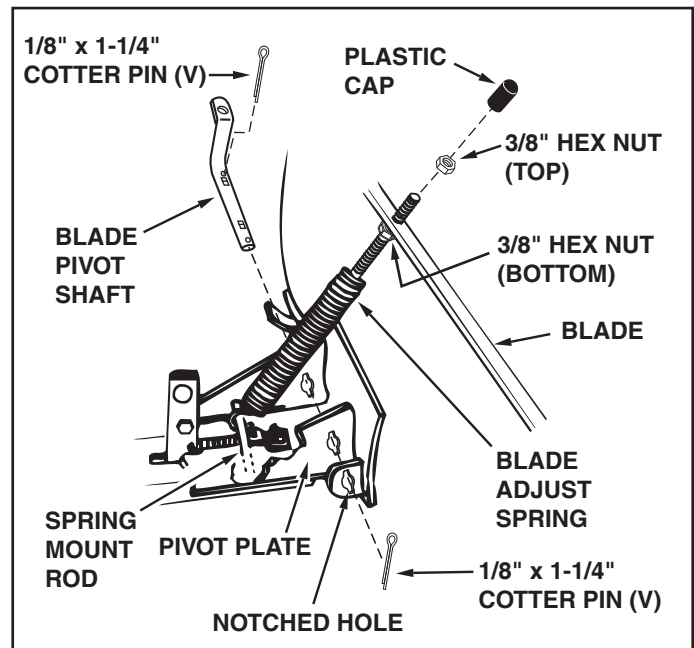

FIGURE 21 (Right Hand Side View)
STEP 7: (SEE FIGURE 21)
- To attach the blade to the channel assembly, align the notched holes in the pivot plate with the notched holes in the blade. Insert a 1/8" x 1-1/4" cotter pin (V) down through the hole at the bend in the blade pivot shaft. Spread the ends of the pin. From the left side insert the blade pivot shaft, bend facing top of blade, through the notched holes. Secure the shaft with another 1/8" x 1-1/4" cotter pin (V) through the end hole in the shaft. Spread the ends of the pin.
- The tension of the blade adjust spring may be altered to permit the blade to tilt forward to bypass solid obstructions. To change the spring tension, adjust the nuts at upper end of the spring bolt. Standing in front of blade, turn the nuts counterclockwise to relieve tension and clockwise to increase tension. Refer to figure 21 on page 11.